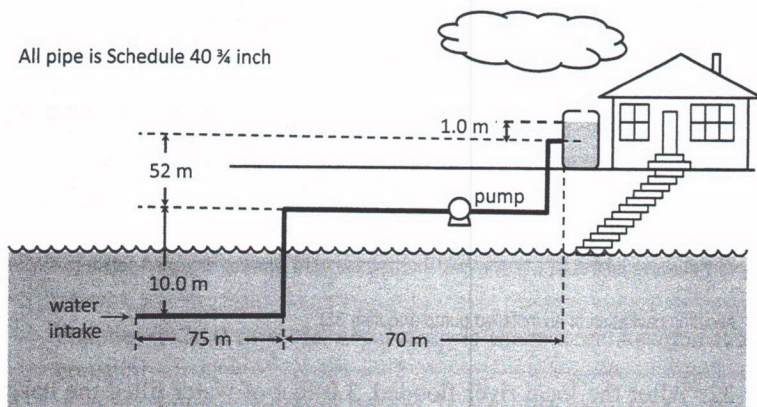

Figure 9.52
30. A lawn-irrigation system is to be built next to a natural pond. The installers plan to obtain water for irrigation directly from the lake. To bring the water from the lake, they plan to install the piping system shown schematically in Figure 9.52. When the pump is running to fill the storage tank, they desire a flow rate of at least 14 liters/min. Which pump should they install? If possible choose your suggestion from among those with pumping-head curves in Figure 9.29.